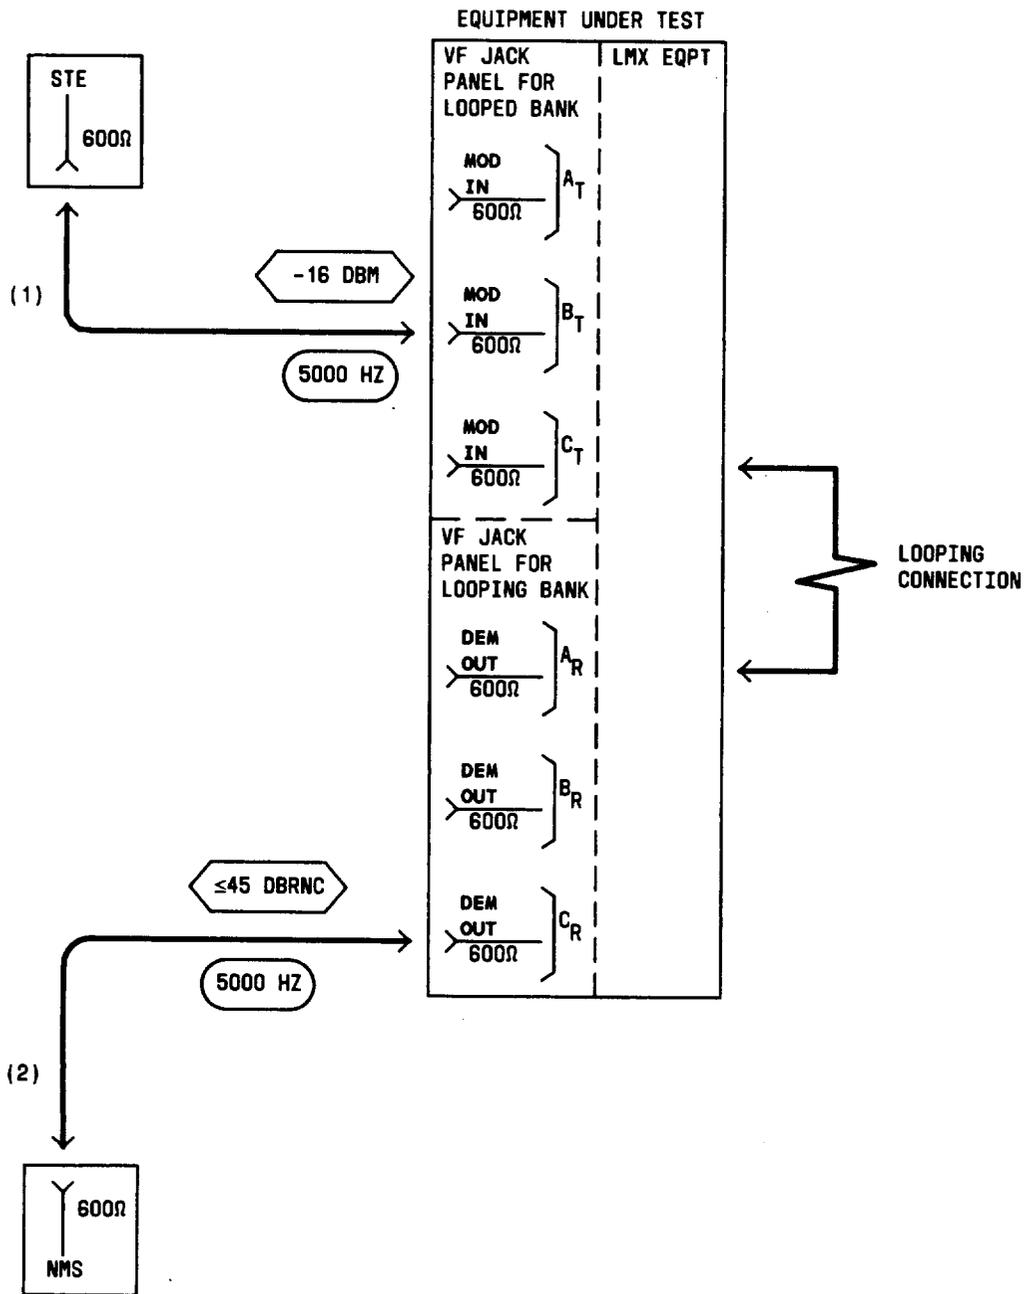

Fig. 17—Patching Diagram—Crosstalk Test—Equal-Level Looping—Upper Adjacent Channel (5000 Hz)
27	Connect the STE to the MOD IN jack for Test A in looped -bank Channel B _T [Table H and patch (1), Fig. 17].
28	Connect the NMS to the DEM OUT jack for Test A in looping -bank Channel C _R [Table H and patch (2), Fig. 17].
32	Remove patches (1) and (2), Fig. 17.